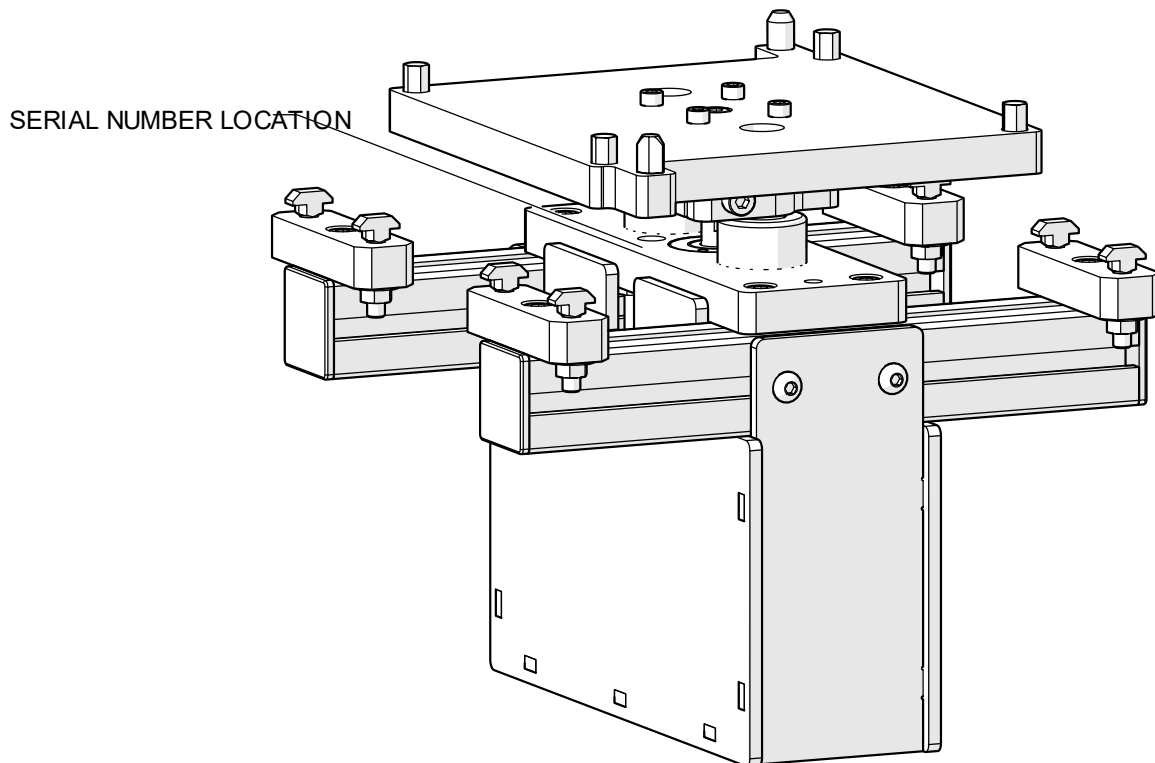

Figure 15: Serial Number Location
Step 2: Remove Shock as shown in Figure 15.